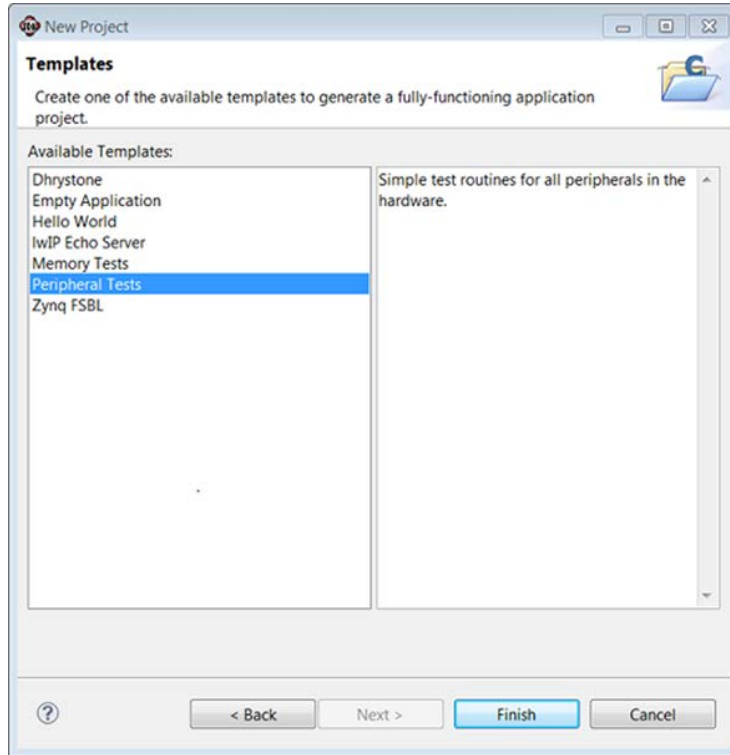

Figure 49: SDK New Project Template
- From the New Project Template, select **Peripheral Test** (Figure 49).